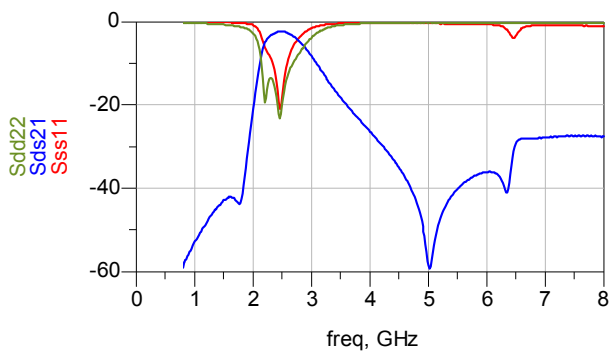

Fig. 3-1
- d) Electrical Performance: See Fig. 3-1, Fig. 3-2